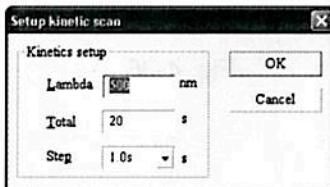

Fig. 4-39
- Click  on the toolbar. A dialogue box will be displayed (Fig. 4-39). Key in the wavelength, total time (in seconds) and scan step in the above dialog box. The wavelength range should be within 190 to 1100 nm. The upper limit for total time is 100000 seconds. Seven scan intervals can be selected from 0.5S, 1S, 2S, 5S, 10S, 30S and 60S. Click OK.